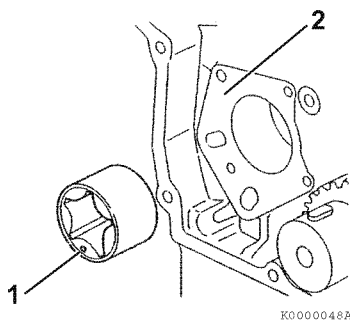

Figure 9-18
2. Reinstall the outer rotor in the gear case housing. The punch mark (Figure 9-18, (1)) on the end of the outer rotor must face away from the gear case housing (Figure 9-18, (2)).